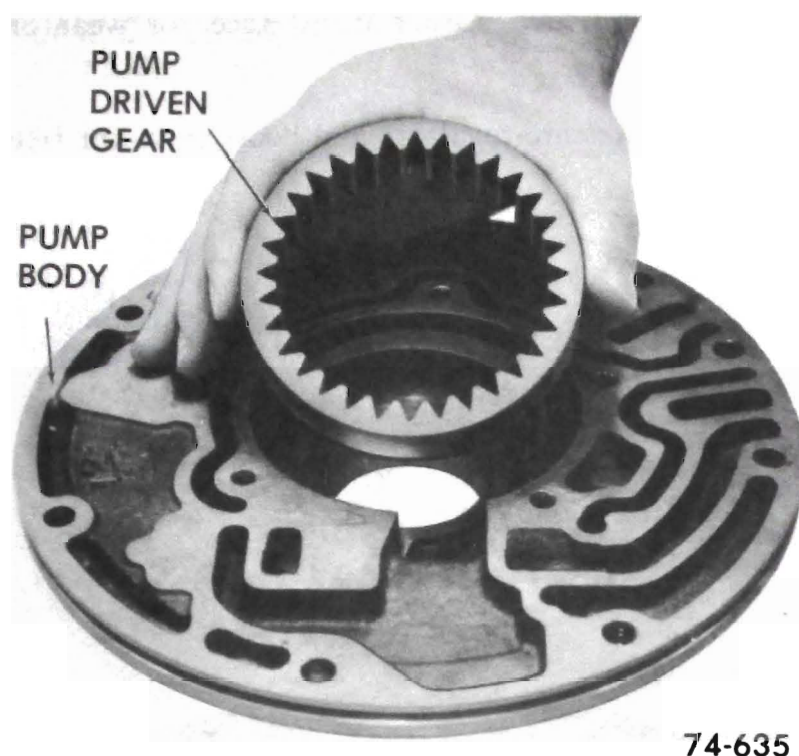

Figure 76-162
12. Remove driven gear from pump body. See Figure 76-162.